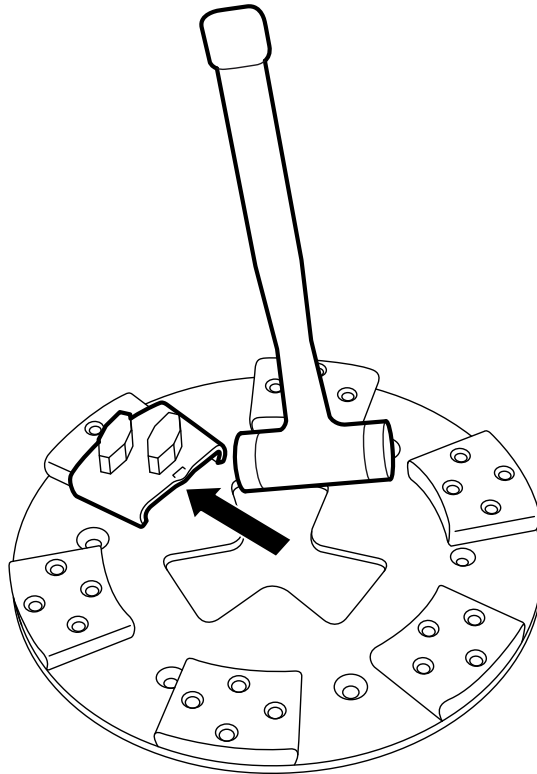

Figure 4-2 Locking grinding tools
2. Lock the grinding tool into the tool holder by giving it a few light taps with a rubber hammer, see Figure 4-2 on page 22.
3. Lock the grinding tool into the tool holder by giving it a few light taps with a rubber hammer - see Figure 4-2 on page 22.